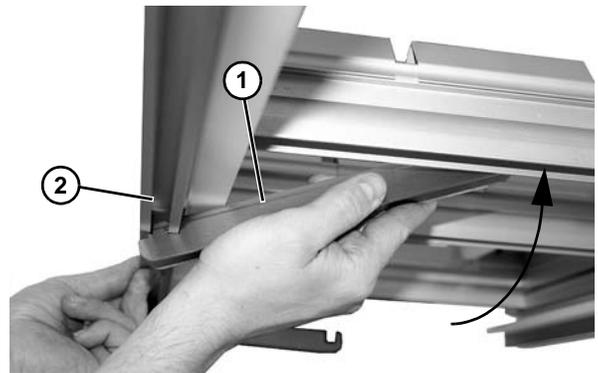

Figure 33
2. If necessary, rotate upward and remove bracket (Figure 33, item 1), from frame channel (Figure 33, item 2).